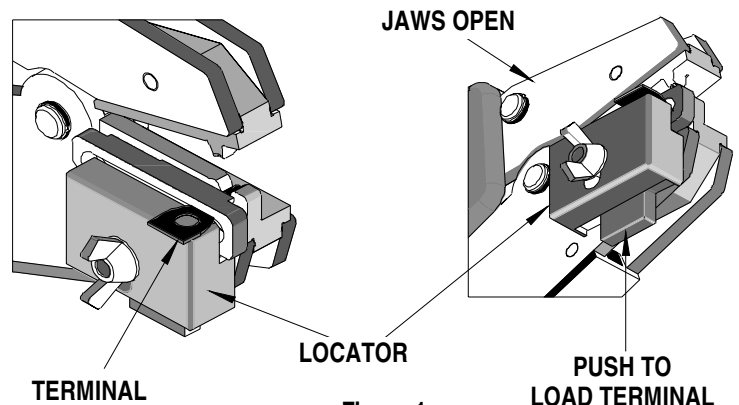

Figure 1
1. Lift the locator and insert the terminal in the proper nest with the barrel up and against the locator bar. For Quick Disconnects, center the terminal barrel in the lower tooling visually, the locator will hold it but does not position Quick Disconnects. Release the locator blade to hold the terminal in position. See Figure 1. Locator may be raised or lowered so terminal sits flat and straight in tool.
4. Remove the crimp and inspect for proper crimp location. Locator is adjustable up and down to keep terminals straight after crimping (See Figure 1). Molex offers a Crimp Inspection Handbook for closed barrel industrial product. See our website or contact your sales engineer.